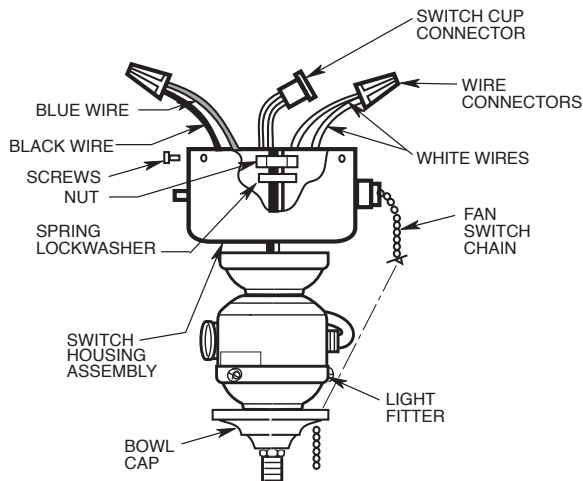

Figure 5
- 10. Remove and retain the lockwasher and nut from the light fitter. Insert the black and white wires from the light fitter through the center hole in the switch housing assembly. Thread the switch housing assembly onto the light fitter. Reinstall the lockwasher and nut and tighten securely (Figure 5).
- 11. Connect the white wire from the ceiling fan to the white wire of the light fitter. Connect the blue wire from the ceiling fan to the black wire of the light fitter. Use wire connectors (previously removed) to make connections (Figure 5).